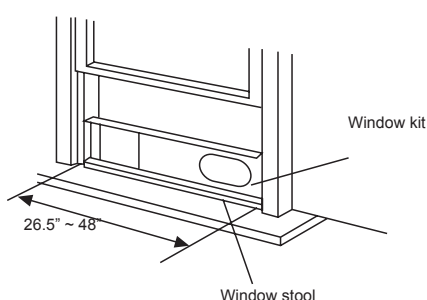

Fig. 11
2. Attach the window slider kit to the window stool. Adjust the length of the window slider kit according to the width of window, shorten the adjustable window kit if the width of window is less than 27 inches. Open the window sash and place the window slider kit on the window stool. Fig.11.